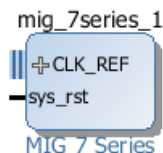

Figure 24: Initial MIG Symbol in Block Diagram
3. Double-click the IP symbol, (Figure 24), to configure the MIG IP.